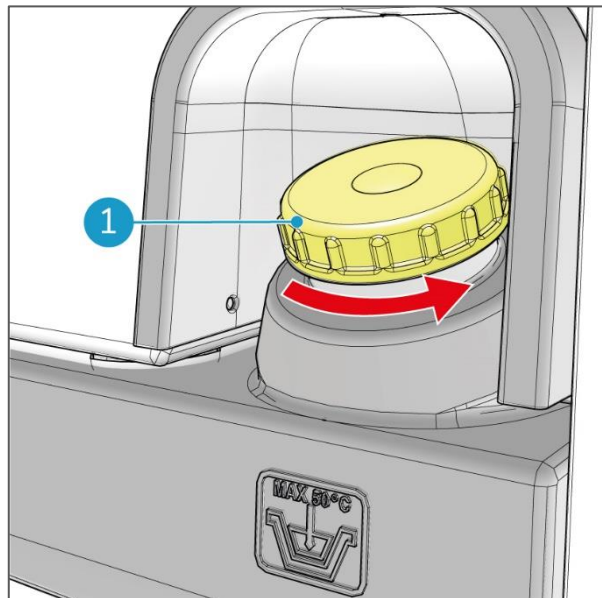

Figure 22
1. Remove the yellow filler cap (Figure 22, pos 1).